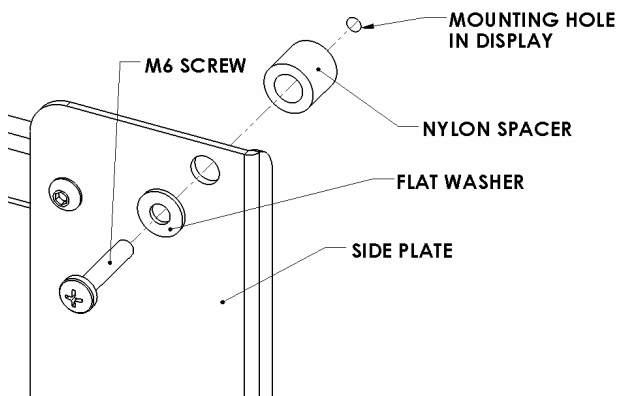
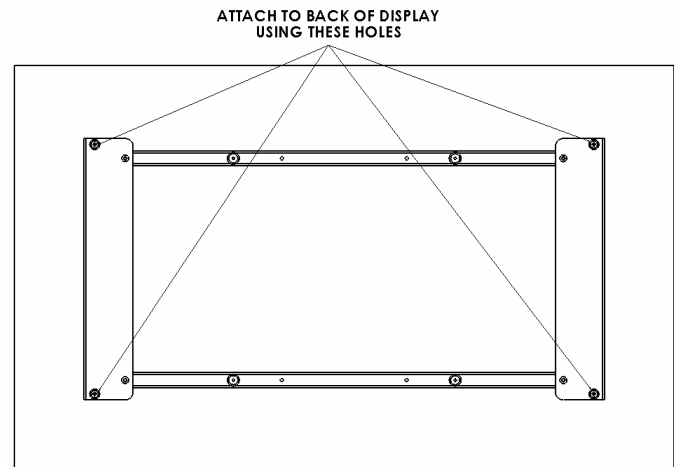

Figure 6
Figure 7
- Place Nylon spacers over mounting holes on back of screen. Attach mounting brackets to display using M6 screws (see Figures 6 & Figure 7).